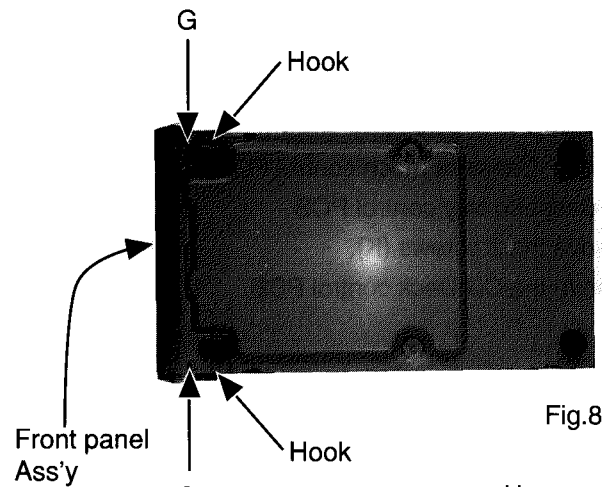

Fig.8
- 5.Remove the 2 screws (G) (Fig8).